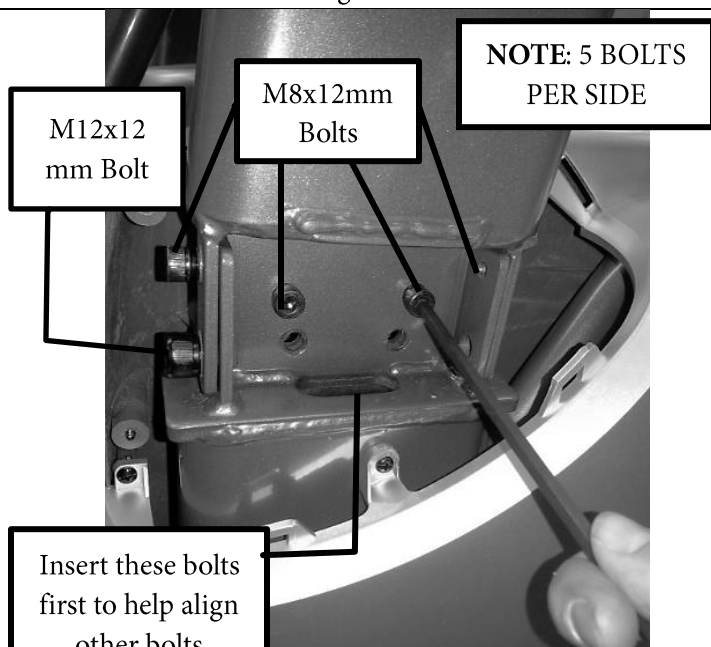

Figure 7
- Open up Bag 1. Use 2 M12x12mm bolts and 8 M8x12mm bolts to attach Pedestal to Base. Figure 7.